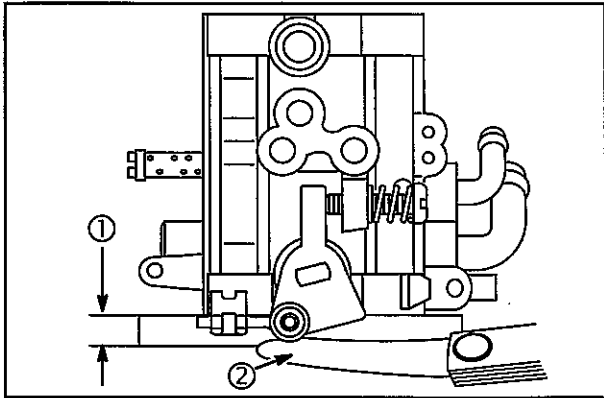

Fig. 58
1. Lay carburetor on 1/4" (6.35 mm) raised flat surface (1). Check throttle and choke shaft clearance with a feeler gauge (2) as shown in Fig. 58.